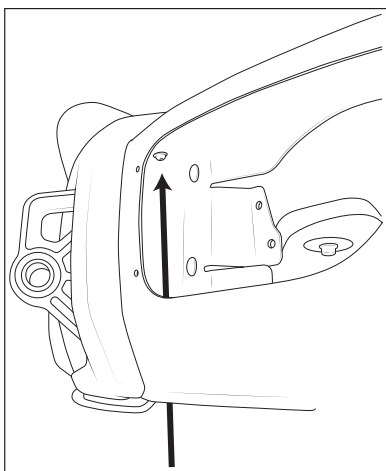

Figure 35
3. Install the M10 x 25 button head bolts and washers to tube hand tight (fig. 35).